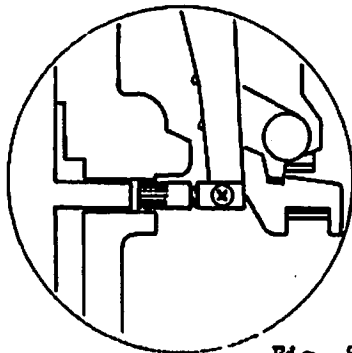

Fig. 87
* When there is gap between Release lock nut and the pin of Tool, double exposure prevention mechanism does not work perfectly. (Fig. 87)